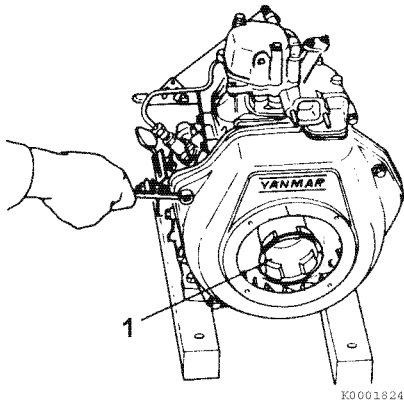

Figure 6-37
13. Remove the cooling fan housing (**Figure 6-37**).
14. Remove the starter pulley from the flywheel (1, **Figure 6-37**).